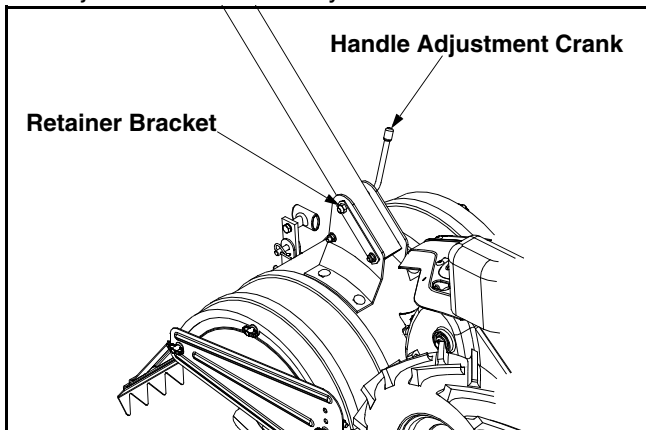

Figure 4
- Place the hex opening of the flange nut retainer bracket over the flange nut securing the handle adjustment crank and install the lock nut on the lower shoulder bolt. See Figure 4.